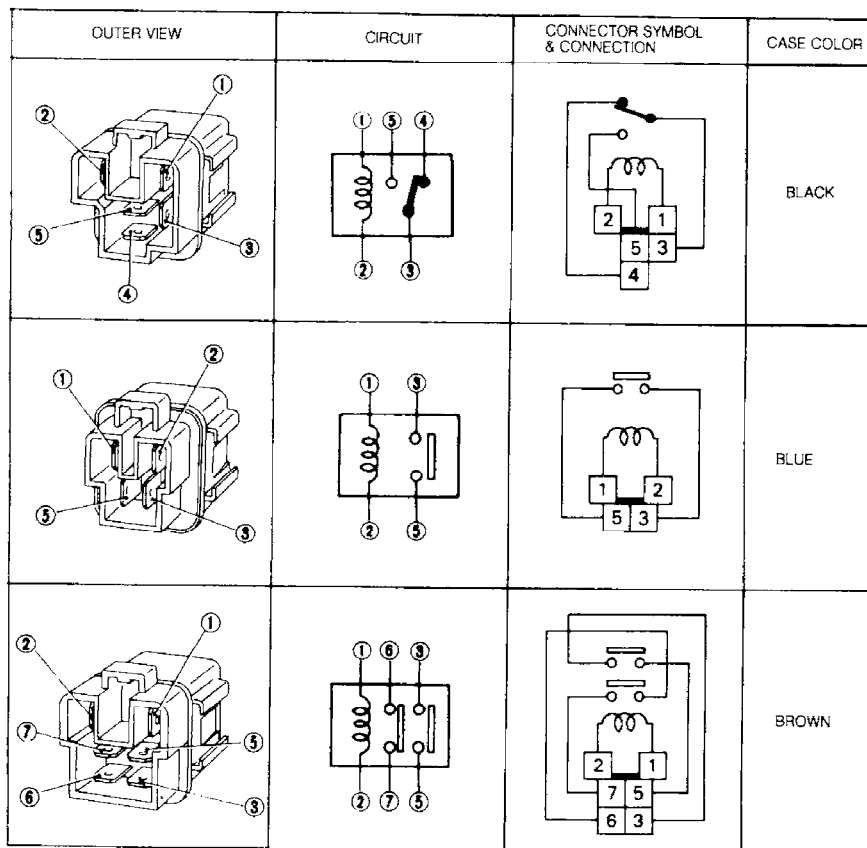

Fig. 1: Identifying Cooling Fan Relay Internals & Test Terminals
1) Three different cooling fan relays are used. They are a 4-wire double contact relay (Blue), a 4-wire toggle select relay (Black) and a 6-wire dual function relay (Brown). See Fig. 1.